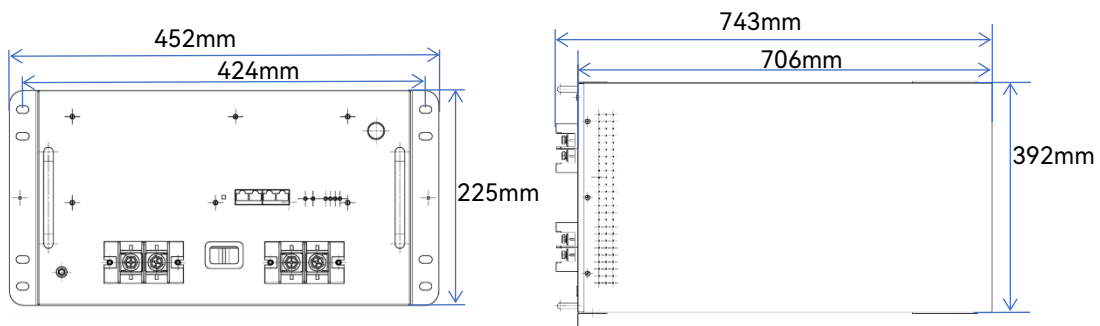

Figure 3-2
Step 1	Fix the bracket to the wall, then hang the battery, indication is as below figure 3-2.